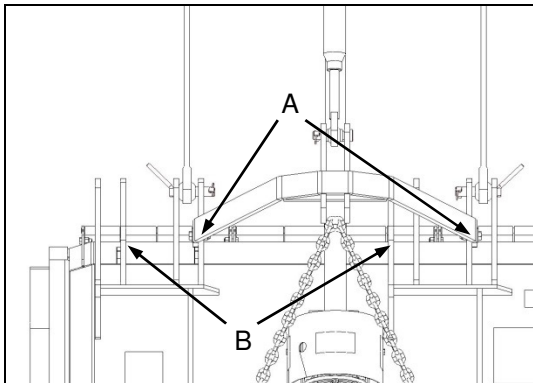

Fig. 4
- ✓ Remove the implement topmast (Fig. 4-A) and reinstall it on the alternative mounting brackets located to the left-hand side of the implement deck (Fig. 4-B).
- ✓ Verwyder die implement se topmas (Fig. 4-A) en herinstalleer dit op die alternatiewe monterhake aan die linkerkant van die implementdek (Fig. 4-B).